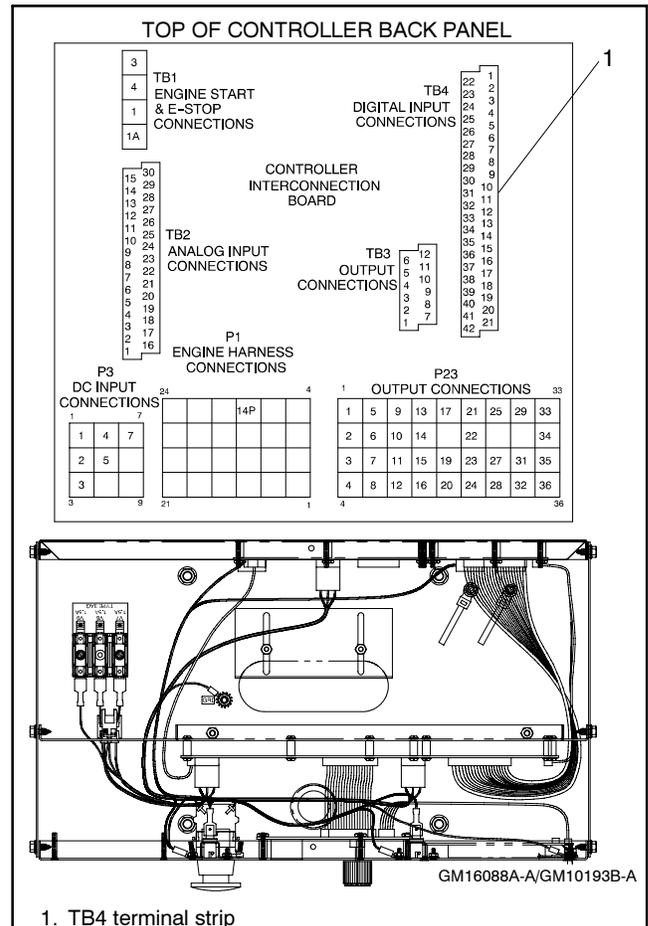

Figure 6 Terminal Strips on Controller Interconnection Circuit Board (controller back panel folded down)
- 3.7 Connect lead 35A to TB4-10 in the controller. Run lead 35A along the existing engine wiring harness, through the junction box grommet, and through the controller bottom grommet to terminal block TB4-10. See Figure 6.